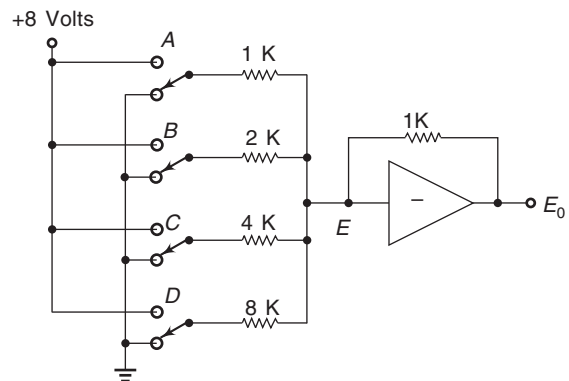

Fig. 17.29
12. Assume switches A, B, C, D of Fig. 17.29 are 0110. Compute the output voltage
13. Compute the gain of the op-amp shown in Fig. 17.29. What is its output voltage if $E_{in} = 3.2$ V?